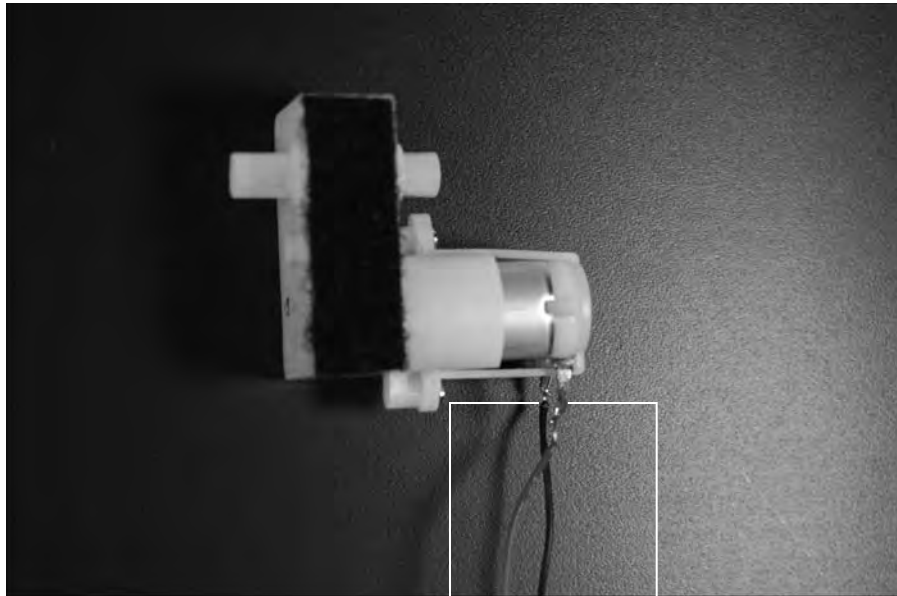

Figure 11-37:
7. Solder 12" wires to the motors, as shown in Figure 11-37.